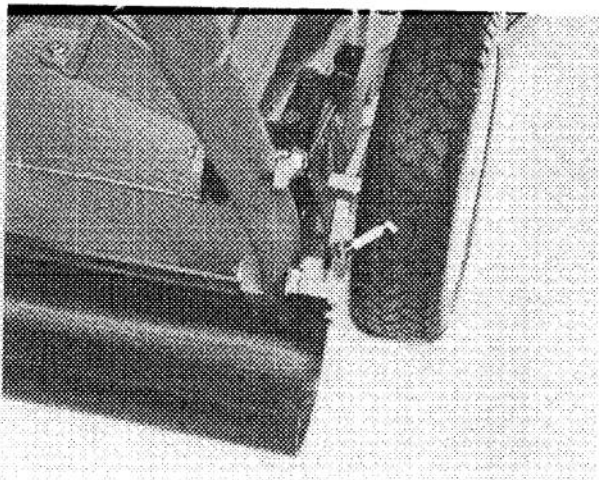

Figure 19
2. Wipe grease fitting with clean rag to prevent dirt from entering bearing area (Fig. 19).
3. Install grease gun onto fitting and gently apply grease (Fig. 19). (Approximately 2-3 pumps.) Excessive grease pressure may damage seals.